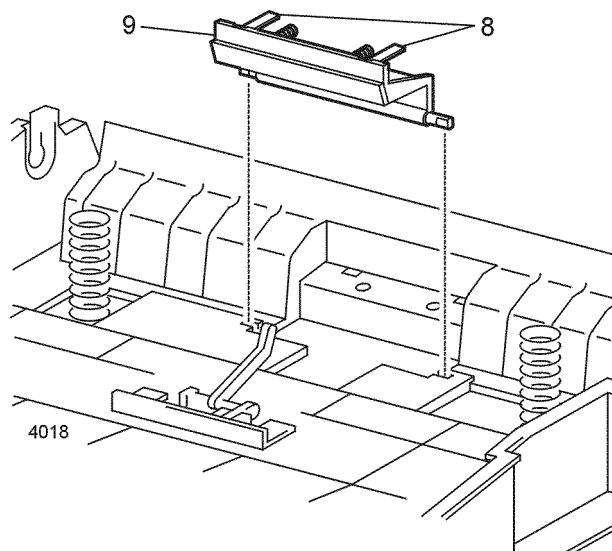

Figure 3 MBF Retard Holder Assembly
8. Release the two locking tabs on the back of the retard holder and rotate the retard holder forward (Figure 3).
9. Continue to rotate the holder forward until it can be lifted out of the MBF base (Figure 3).
8. Disconnect P/J125 from the MBF No Paper Sensor Assembly (Figure 3).
9. Release the two locking tabs on the bottom of the Sensor Assembly and remove the sensor (Figure 3).